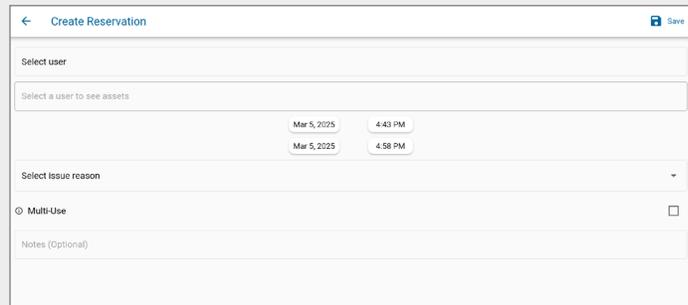

Fig. 93 – Create Reservation screen
3. On the **Create Reservation** screen, shown in Fig. 93, select the user who will pick up the reserved asset.